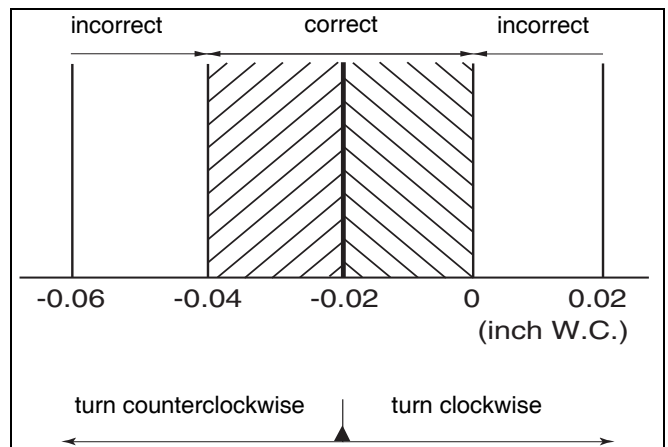

fig. 59 Differential pressure gas/air ratio part-load
- The differential pressure ($p_{\text{Gas}} - p_{\text{Air}}$) must be -0.02 inch W.C. (-5 Pa) (± 0.02 inch W.C. = ± 5 Pa) (read-out on pressure gauge: $-0.04 - 0$ inch W.C. = -10 Pa $- 0$ Pa). See fig. 59.